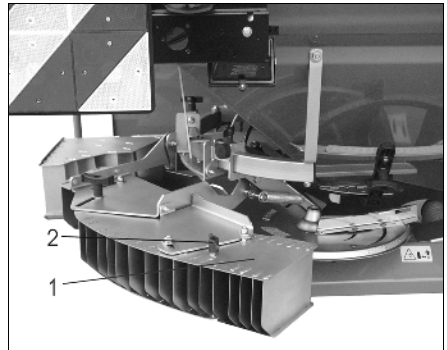
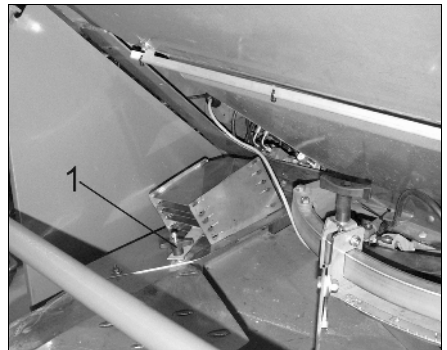

Fig. 43
Fig. 44
- For dismantling slacken the thumb bolt (Fig. 43/2) and unhook the deflector. Retighten the thumb nut and with the aid of the clamping plate affix the deflector in the parking position.
- Secure the additional deflector (Fig. 43/1) with the clamping plate (Fig. 44/1) and take along in parking position (Fig. 44).